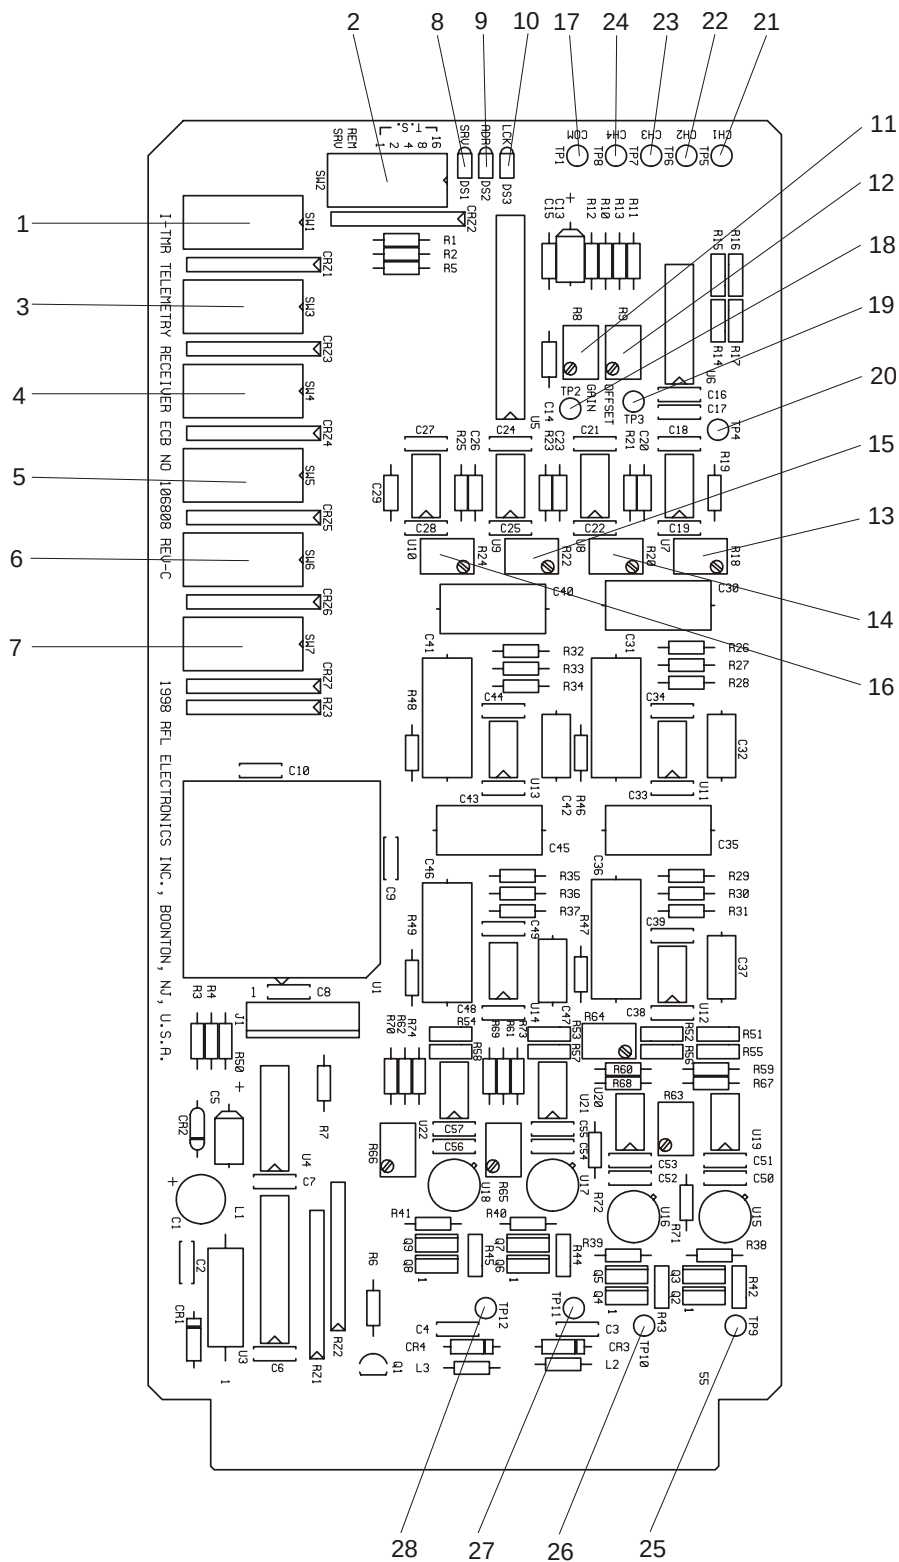

Figure 4. Controls and indicators, RFL TMR Telemetry Receiver module
8. Refer to Figure 4 and Table 10 for the location and function of DIP switches on the TMR module.